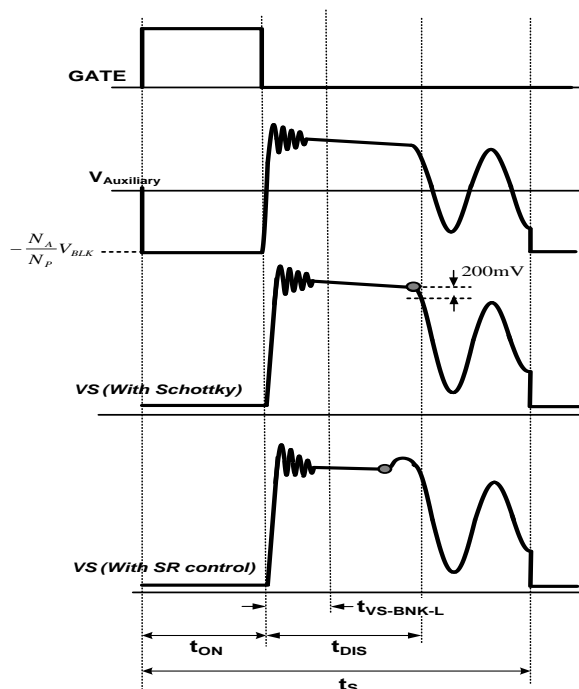

Figure 26. VS sampling with Diode or Synchronous Rectifier
VS voltage which is reflected auxiliary winding and proportional to output voltage. Therefore, It is possible to regulate output voltage by sensing VS voltage. Figure 26 shown VS sampling waveform with secondary rectifier that using Schottky diode or Synchronous Rectifier (SR).
In order to regulate output voltage in accurately range, FAN105B build-in VS sampling methodology for signal like Figure 26 showed, FAN105B samples and hold VS voltage
A leading edge blanking time ($t_{VS-BNK-H/L}$) start from primary switch turned off. Most of TA design have VS oscillation after primary switch turned off, that is caused by the resonance of leakage inductance and parasitic capacitance at transformer. In order to avoid VS sampling procedure get impacted by that ringing, the oscillation should be settle before $t_{VS-BNK-L}$ ended as Figure 26 showed. t_{DIS} is secondary rectifier current discharging time which recommend better design is longer than $t_{VS-BNK-H}$ during minimum on time controlling. t_{DIS} is predictable by following formula: